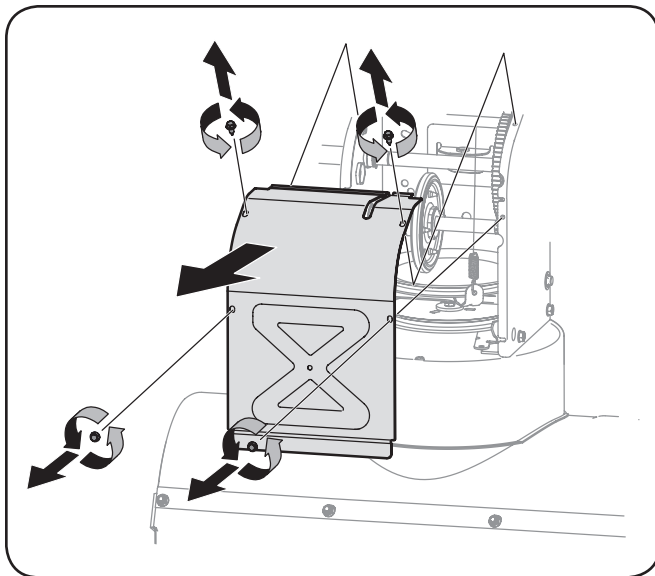

Figure 7-4
3. Remove the frame cover from the underside of the snow thrower by removing the self-tapping screws which secure it. Refer to Figure 7-4 on page page 19.
- Remove the frame cover from the underside of the snow thrower by removing the self-tapping screws which secure it. See Figure 7-4.
- Remove the frame cover from the underside of the snow thrower by removing four self-tapping screws which secure it. Refer to Figure 7-4.